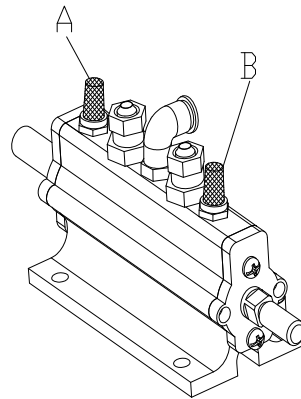

Fig 11-5
- If the lifting device moves too slow and the column tilts too slow, you should operate as per the following steps shown in Fig 11-5. Clean the silencer.